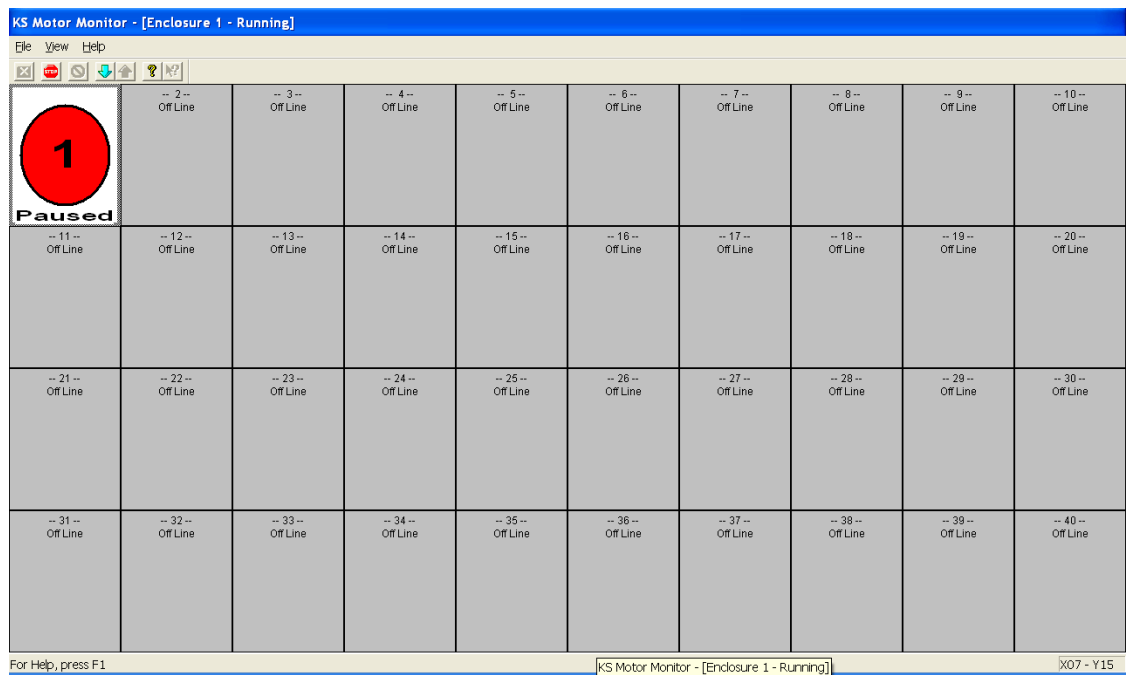

Figure 2-10. Paused Runtime Screen
20. For Sessions that have a Pre Pause time selected you will see the following screen when the session is paused (See Figure 2-10). This screen only appears if a Pre-pause time was selected when session was created. (See section 2.1.1 para. 4)